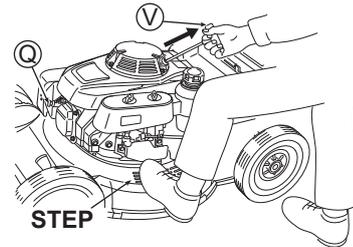

Fig. 11
1. Install Plug cap (Q). (See Fig. 11)
4. To start the engine, step one foot on the step of the housing, lightly pull Starter knob (V) and temporarily stop at a position where you feel heavy to pull the knob, and then powerfully pull it from that position. After that, return Starter knob (V) slowly. (See Fig. 11)